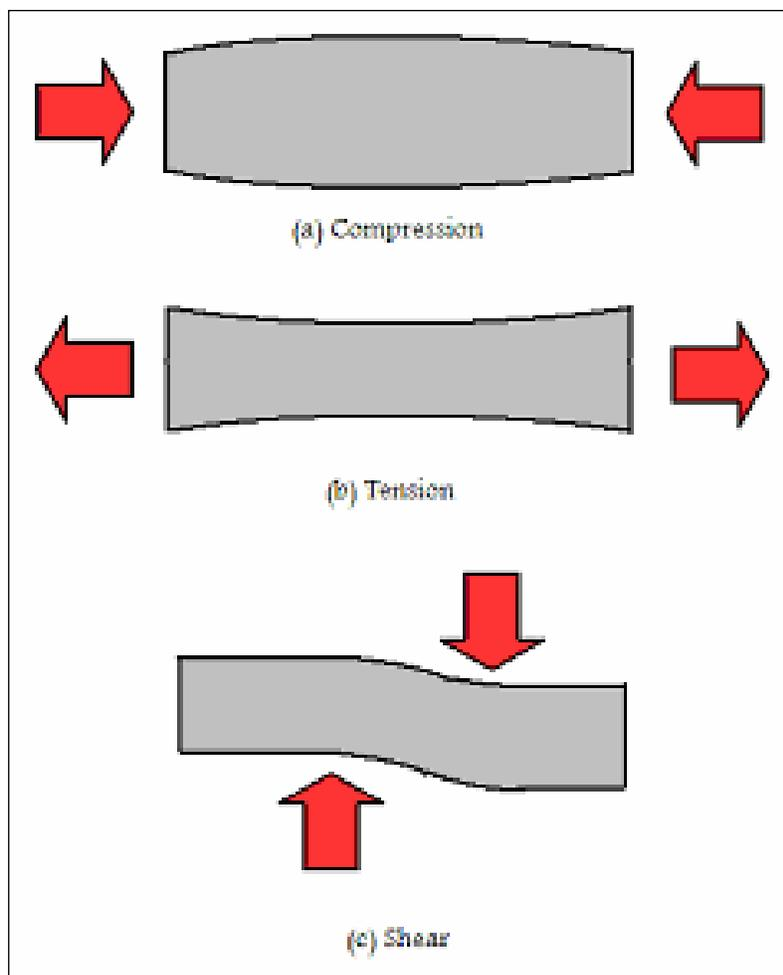

Figure 1. Different applied load types.
2. There are three different types of applied forces (loads) that will be covered in this lesson: compression, tension, and shear. Compression is when a force is applied inward against the face of a structural element, shortening it. Tension is when a force is applied that pulls outward against the face of a structural element, stretching it (for example, as when a rubber band is stretched). Shear is when a force is applied in parallel to the face of a structural element, at an angle that is perpendicular to either compression or tension forces. Shape a piece of silly putty into a cylinder and have the students duplicate these applied loads, witnessing the deformation of the structural element. Remind students of Lesson 4 where they used a ball of pizza dough to demonstrate this. Inform the students that even solid structural pieces made out of steel or stone deform in these ways in response to loads, even if the human eye cannot discern the tiny displacement of the piece. A diagram of the different load types and the resulting deformation of the structural element is provided in Figure 1.